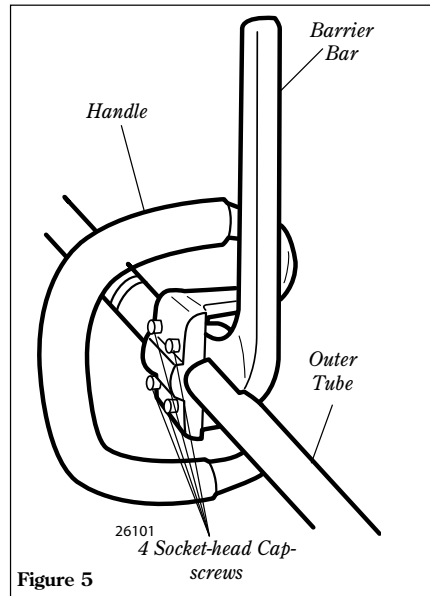

Figure 5
1. The handle is attached to the outer tube at the factory and positioned in an off-set position. See Figure 5.